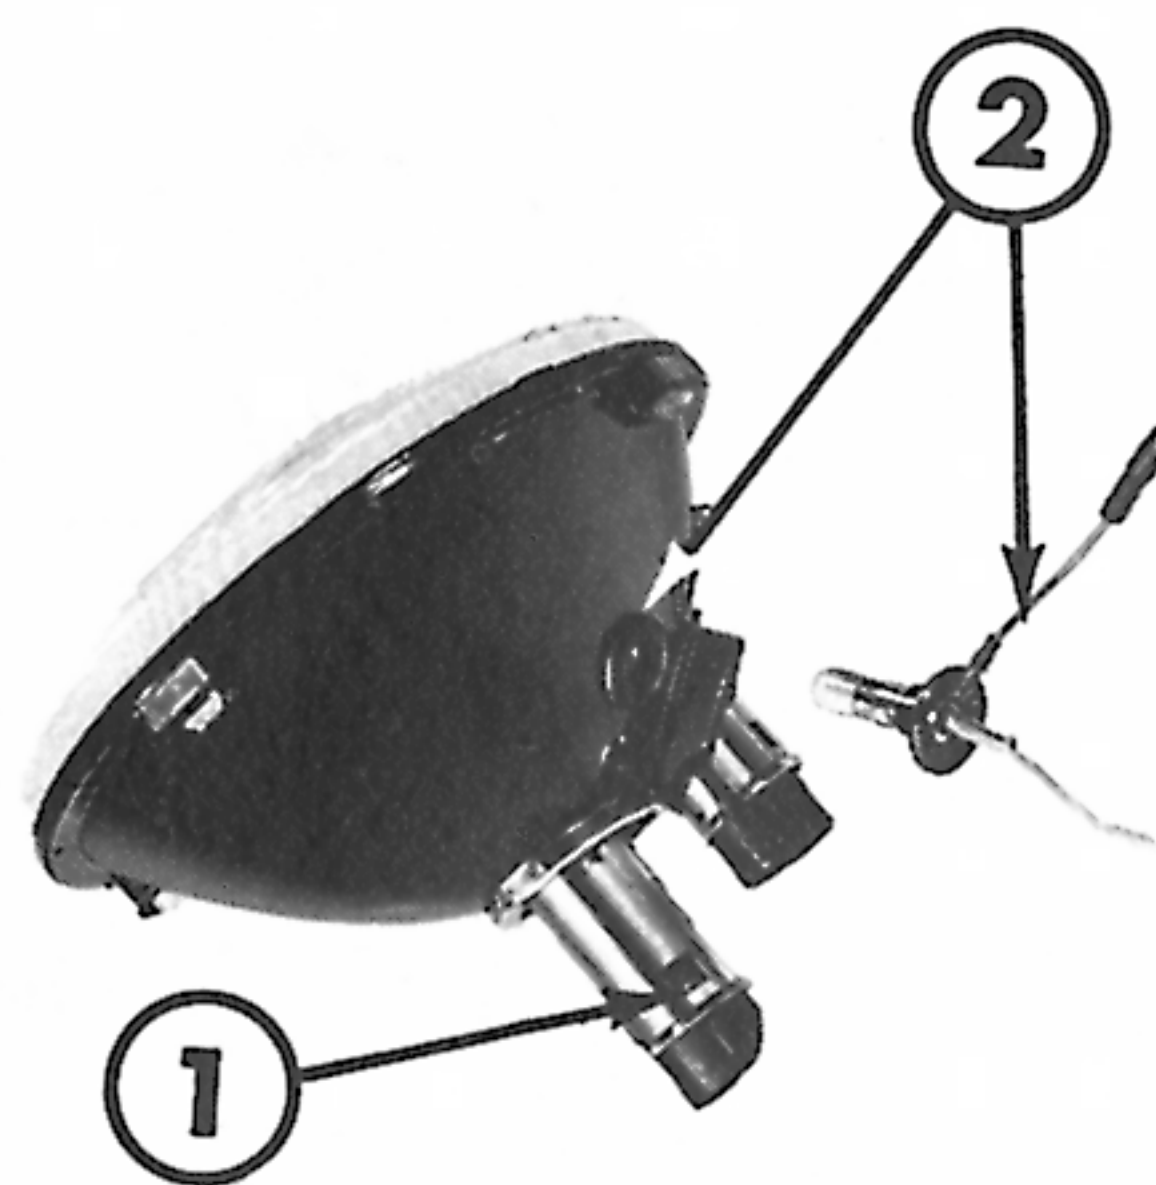

Fig. 40 - Main beam/Dipped (large diameter)
B. "Cibié" component (Fig. 40).